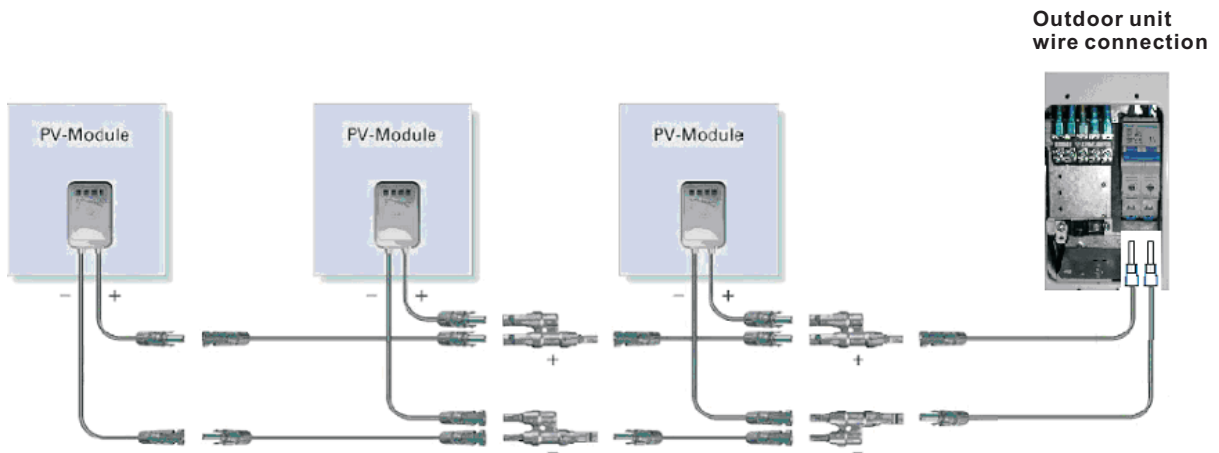

Fig.52b
- Connection method B: Using a 3m extension cord during connection for the distance between the modules is long, see Fig.52b.